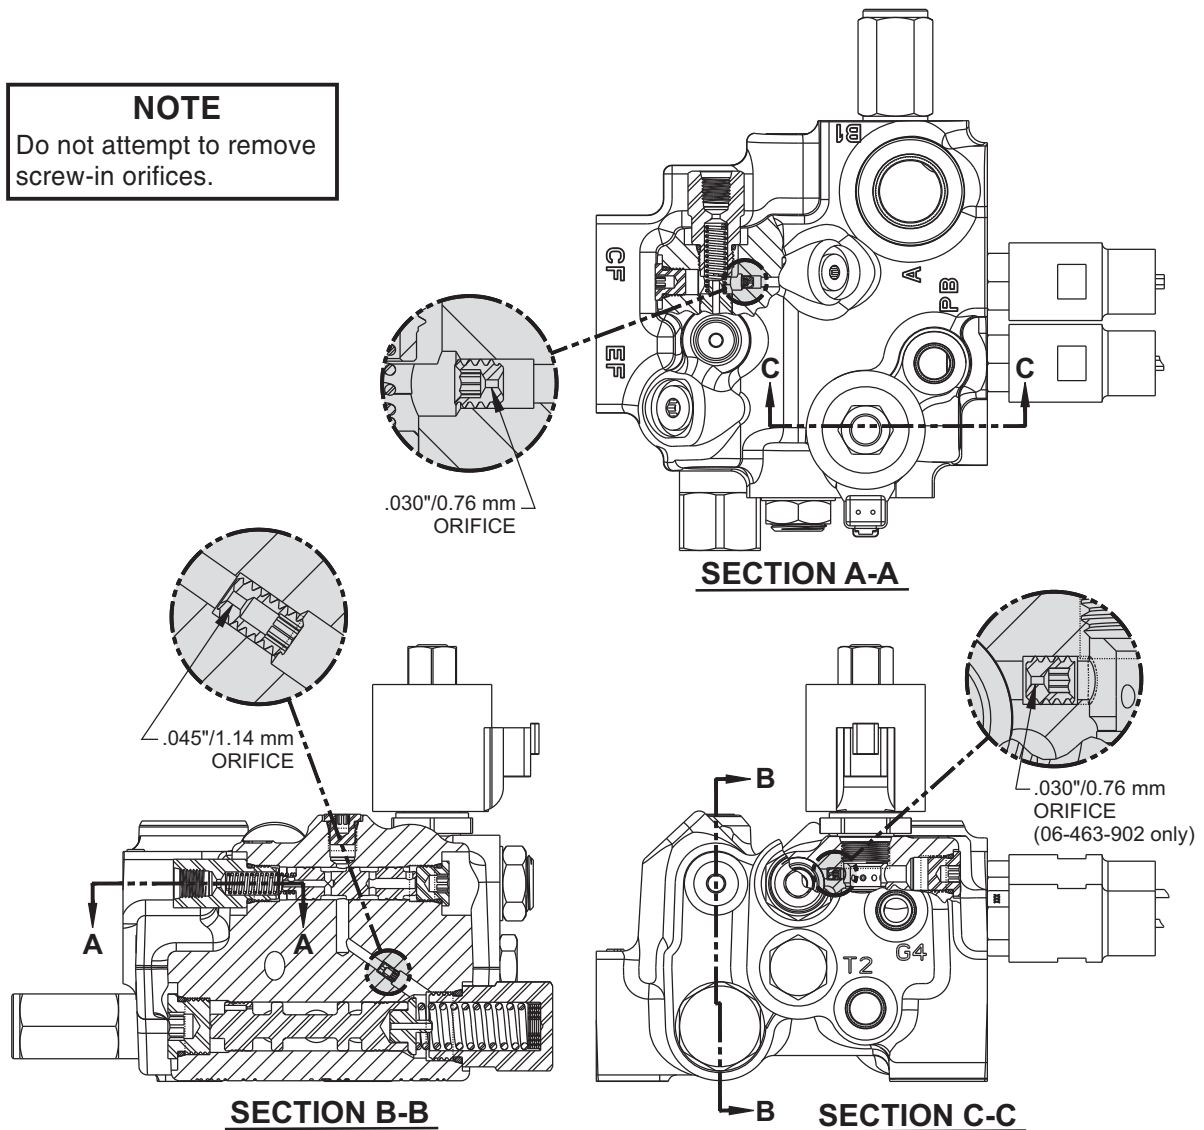

FIGURE 2
1. Inspect internal orifices shown in FIGURE 2 on page 5 to be sure they are free of obstruction or contamination. **NOTE: Do not attempt to remove the screw-in orifices. The orifice shown in SECTION C-C is used in 06-463-902 and is not used in 06-463-916.**
2. **Model 06-463-902:** Install new o-ring (15) on screw assembly (45). Install new o-ring (31), seat (48), new poppet (47), spring (46) and screw assembly (45) into housing (55). Torque screw assembly (45) 24.4-29.8 N·m (18-22 lb·ft). Then install nut (44) on screw assembly (45) and torque nut 43.4-51.5 N·m (32-38 lb·ft).
- Install new o-ring (15) on screw assembly (45) from nut (44) side of screw assembly. Install washer (57), new o-ring (31), seat (48) and steel ball (47) in housing (55). Fully lubricate shim (56) with clean system fluid and install in housing (55) on end of seat (48). Install screw assembly (45)/spring (46) in housing (55). Torque screw assembly (45) 24.4-29.8 N·m (18-22 lb·ft). Then install nut (44) on screw assembly (45) and torque nut 43.4-51.5 N·m (32-38 lb·ft).
3. Install new o-ring (2) on plug (43). Install plug (43) in housing and torque 24.4-29.8 N·m (18-22 lb·ft).
4. Install new o-ring (2) on plug (40). Install spool (42), spring (41) and plug (40) in housing and torque plug 27.1-32.5 N·m (20-24 lb·ft). Note direction of spool (42). See SECTION B-B Figure 2 on page 5.
5. Install new o-ring (15) on plug (39). Install spool (38) and plug (39) in housing and torque plug 94.9-101.7 N·m (70-75 lb·ft). Note direction of spool (38). See SECTION B-B of Figure 2 on page 5.
6. Install stop (37) in housing.
7. Install new o-ring (34) on plug (33). Install shim(s) (35) and spring (36) in plug (33). Install plug (33) in housing and torque 94.9-101.7 N·m (70-75 lb·ft).
18. Install new o-ring (2) on plugs (51 & 54). Install plugs (51 & 54) in housing and torque 24.4-29.8 N·m (18-22 lb·ft).
19. Install new o-ring (50) on plugs (49, 52 & 53). Install plugs (49, 52 & 53) in housing and torque 13.6-19.0 N·m (10-14 lb·ft).
20. Install new o-ring (2) on pressure switch (3). Install pressure switch (3) in housing cavity "SB" and torque 27.1-32.5 N·m (20-24 lb·ft) using hex flats. Switch (3) can be identified by its electrical connector. **NOTE: Pressure switch (3) is identified 32-580-128 for both 06-463-902 and 06-463-916. Earlier model 06-463-902 pressure switch (3) is identified 32-580-086.**
21. Install new o-ring (2) on pressure switch (1). Install pressure switch (1) in housing cavity "SA" and torque 27.1-32.5 N·m (20-24 lb·ft) using hex flats. Switch (1) can be identified by its electrical connector. **NOTE: Pressure switch (1) for 06-463-902 is identified 32-580-127. Pressure switch (1) for 06-463-916 is identified 32-580-142. Earlier model 06-463-902 pressure switch (1) is identified 32-580-084.**
22. **NOTE: Seal kit (8) is a separate package included in the primary repair kit.** Install new o-ring (13), new back-up rings (11), new o-ring (12), new back-up rings (9) and new o-ring (10) on solenoid valve stem (7). Note location and order of back-up rings and o-rings.
23. Install solenoid valve stem (7) in housing and torque 24.4-27.1 N·m (18-20 lb·ft) using hex flats. Note the orientation of coil (6), see Figure 2, and install coil (6) and nut (5) on solenoid valve stem. Torque nut (5) 6.8-9.5 N·m (5-7 lb·ft)